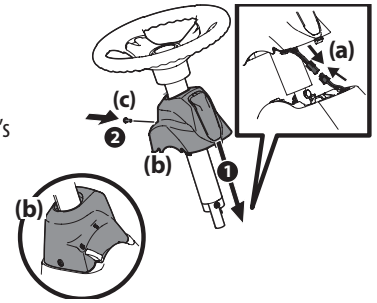

Figure 3
6. Remove the pedestal cap mount screw (factory installed) located on the tractor's steering console. Retain the screw for later instructions. See Figure 3.
7. Connect the headlight wire terminals (a). Slide the pedestal cap (b) down onto the tractor and slightly rotate to the right to clip into place. Secure the pedestal cap (b) with the screw (c) previously removed. See Figure 3.